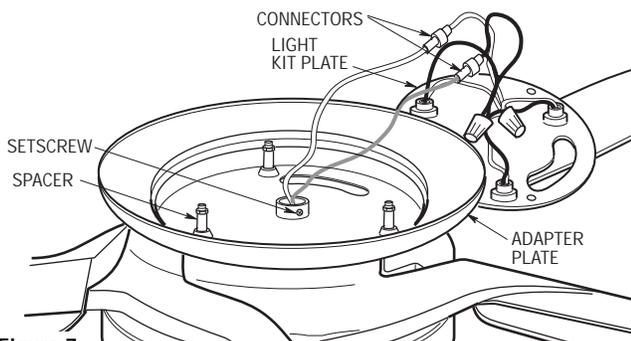

Figure 7
- 10. Using the 3/16" hex wrench (supplied), loosen the setscrew in the adapter plate collar. Pass the blue and white leads through the collar and tightly screw the adapter plate onto the motor shaft (Figure 7). Securely tighten the setscrew in the adapter plate collar.
- 11. Connect the white wire from the light kit plate to the white wire from the motor; connect the black wire from the light kit plate to the blue wire from the motor (Figure 7). Make sure the connectors are fully engaged.